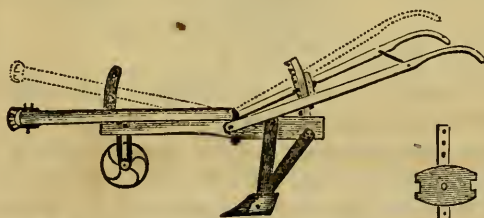

Fig. 147—ADJUSTABLE DITCHING PLOW.
*The adjustable ditching plow*, fig. 147, admits of so great a change in the height of the beam and handles, that it may be run down in the bottom of a ditch to a depth of four feet. It is perhaps the best implement of the kind for all purposes
heights, in the handles. The rest is similar to fig. 147.